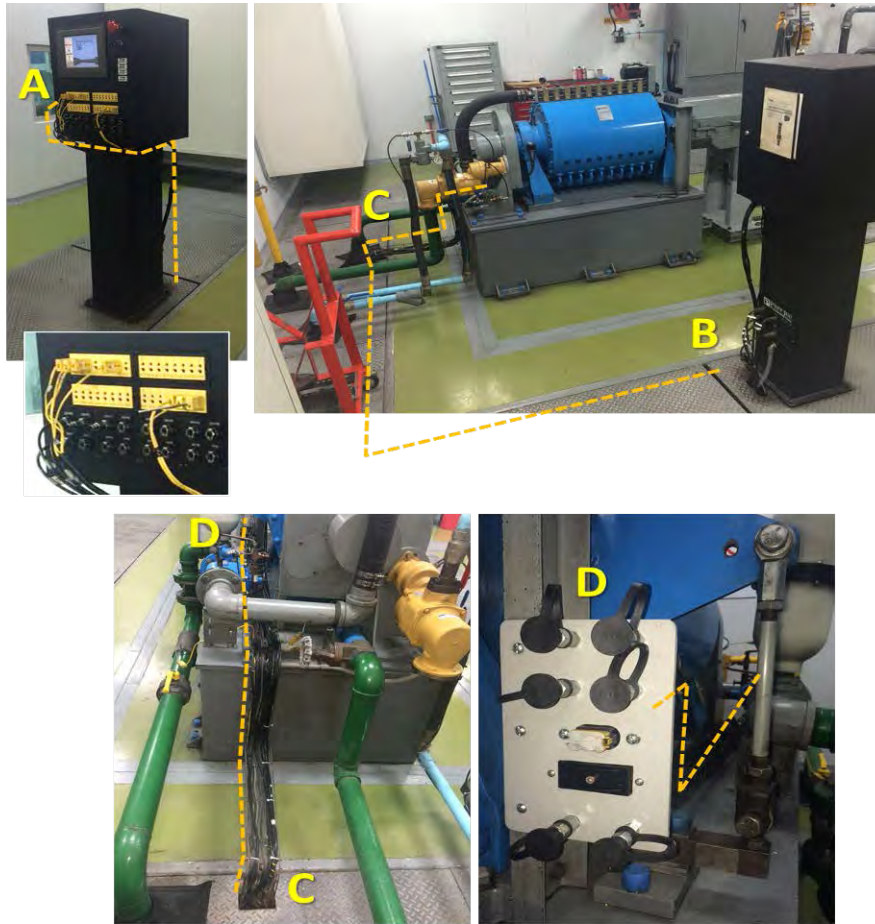

Figure 3.
From the workstation ports (A) the hoses to the pressure taps of the lubrication system, fuel and air are connected; and the cables extension for the thermocouples, are taken to the channel drains, enter the point (B) and exit through the point (C), then by a metal conduits are routed up to the plate (D), which is anchored by bolts to a channel welded to the dynamometer base. See Fig. 3.